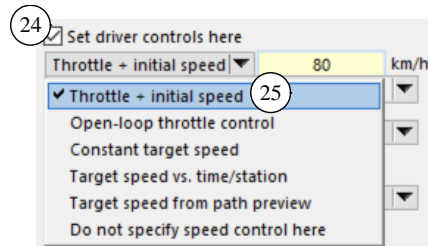
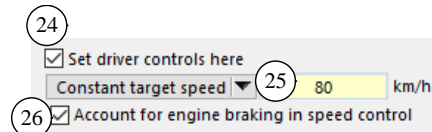

Figure 19. Options for speed control.
Figure 20. Extra controls shown for constant target speed setting.
- ②④ **Set driver controls here.** Check this box to view more options for specifying driver/rider control data for a run. The following controls are visible only when this box is checked. This control is visible only when **Show more options on this screen** ③ is checked.
- ②⑤ **Speed / Acceleration option.** This drop-down list has options for controlling the vehicle speed (Figure 19). If the selected option implies that more information is needed, then a yellow field and/or blue link are also shown.
If the selected control involves target speed (i.e., a closed-loop controller), then a link is shown for connecting to a dataset in the appropriate library. If an open-loop control is selected, then a yellow field is used to set the initial speed and a link is shown for connecting to an open-loop throttle control dataset (Figure 19). If a constant target speed is selected, then a yellow field is shown for specifying that speed, along with a checkbox for accounting for engine braking in the controller ②⑥ (Figure 20).
**Note** The vehicle model has a closed-loop speed controller that can work with a target speed defined as a function of both time and station, or by previewing the target path and determining speed based on acceleration limits. The option shown in Figure 20 is a quick way to set the target speed to a constant value.